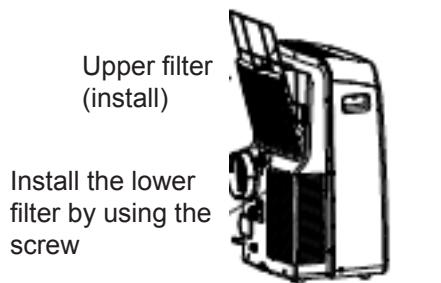

Fig. 24
- Mounting Install the upper air filter after cleaning, and install the lower filter by using the screw (see Fig.24).